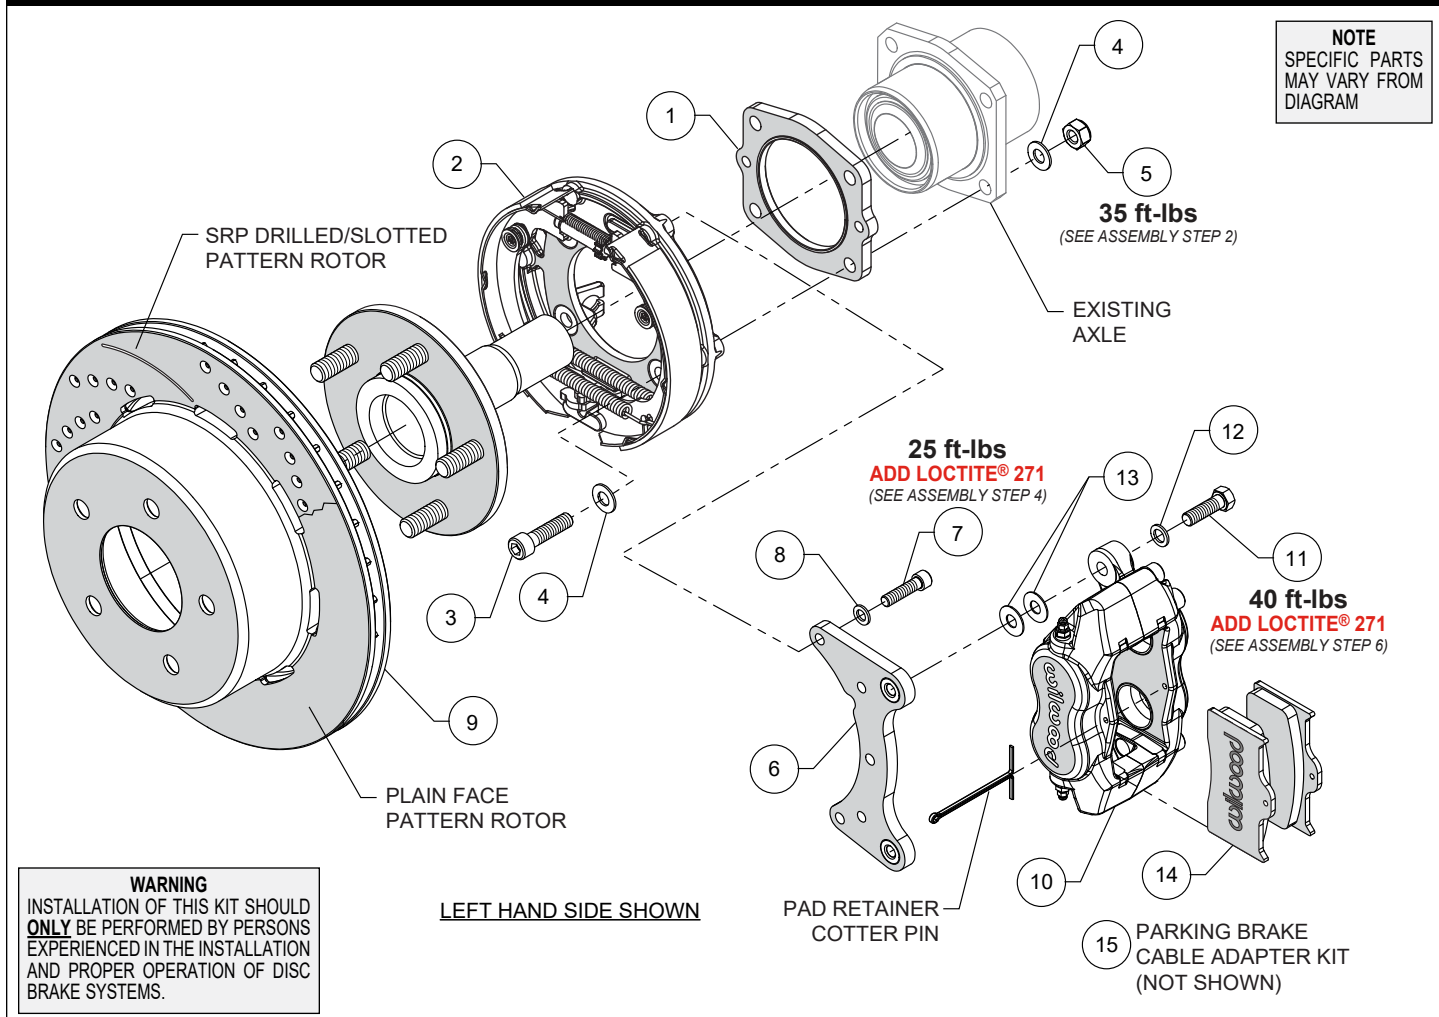
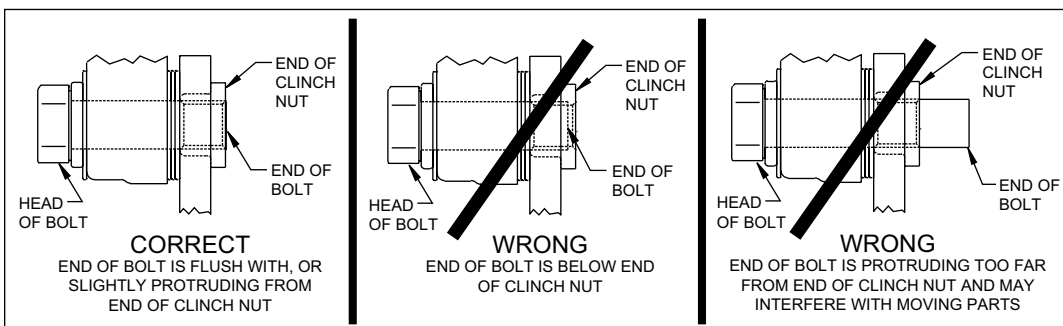

Figure 1. Typical Installation Configuration
Figure 4. Clinch Nut Engagement Diagram
NOTE: Numbers in parenthesis refer to the parts list and Figure 1 on the preceding pages.
CAUTION: All mounting bolts must fully engage clinch nuts. Be sure to check that all bolts are either flush or protruding through flanged side of clinch nut after shimming, Figure 4.
STEP 1 Slide the parking brake assembly spacer (1) onto the axle housing as shown in Photo 1 and Figure 1. **NOTE:** Ensure the spacer fits flush against the axle flange.
STEP 2 Orient the parking brake assembly (2), as shown in Figure 1. **NOTE:** The brake shoe adjuster star wheel should be at the top of the assembly when mounted (see arrow, Photo 2). Mount assembly (2) to axle housing flange using bolts (3), washers (4), and locking nuts (5), Photo 2 and Figure 1. Ensure that the backing plate of the parking brake assembly (2) fits flush against the spacer (1). Torque lock nuts (5) to value shown in Figure 1.
STEP 4 Install the caliper mounting bracket (6) to the parking brake assembly (2) using bolts (7) and washers (8) as shown in Figure 1 and Photos 3 and 4. **NOTE:** Be sure the heads of the caliper bracket clinch nuts (6) are facing outward toward the wheel. Apply red Loctite® 271 to the bolt threads (7) and torque to value shown in Figure 1.
STEP 5 Slide the rotor (9) onto the axle flange. **NOTE:** The rotor/hat must fit flush against the axle flange or excessive rotor run out may result. Install three lug nuts (finger tight) to keep the rotor/hat assembly in place while continuing with the installation, Photo 5.
STEP 6 NOTE: Please reference the caution statement at the beginning of the assembly instructions. Mount the caliper (10) onto the caliper mounting bracket (6) using bolts (11) and washers (12), as shown in Figure 1. Initially place two .035" thick shims (13) on each bolt between the caliper and the bracket, Photo 6. Temporarily tighten the mounting bolts and view the rotor (9) through the top opening of the caliper. The rotor should be centered in the caliper, Photo 7. If not, adjust by adding or subtracting shims between the bracket and the caliper. Always use the same amount of shims on each of the two mounting bolts. **NOTE:** The end of each bolt must be flush with or slightly protruding from the head
of the clinch nut, as shown in Figure 4. If necessary place spare shims between washer (12) and caliper mounting ear to achieve the proper clinch nut engagement. Once the caliper alignment and clinch nut engagement are correct, remove the bolts (11) one at a time, apply red *Loctite*® 271 to bolt threads, and torque to value shown in Figure 1.
STEP 7 Install the disc brake pads (14) into the caliper, with the friction material facing the rotor (9), Photo 8. Secure in place using pad retainer cotter pin, Figure 1 and Photo 9.
STEP 9 Install three lug nuts to hold the rotor/hat (9) securely in place, remove the rubber grommet in the backing plate (2) and adjust the parking brake shoes outward (using a drum shoe adjustment tool available at your local auto parts store) while spinning the rotor/hat (9) until a slight drag is felt against the hat/drum. Replace the rubber grommet when finished.